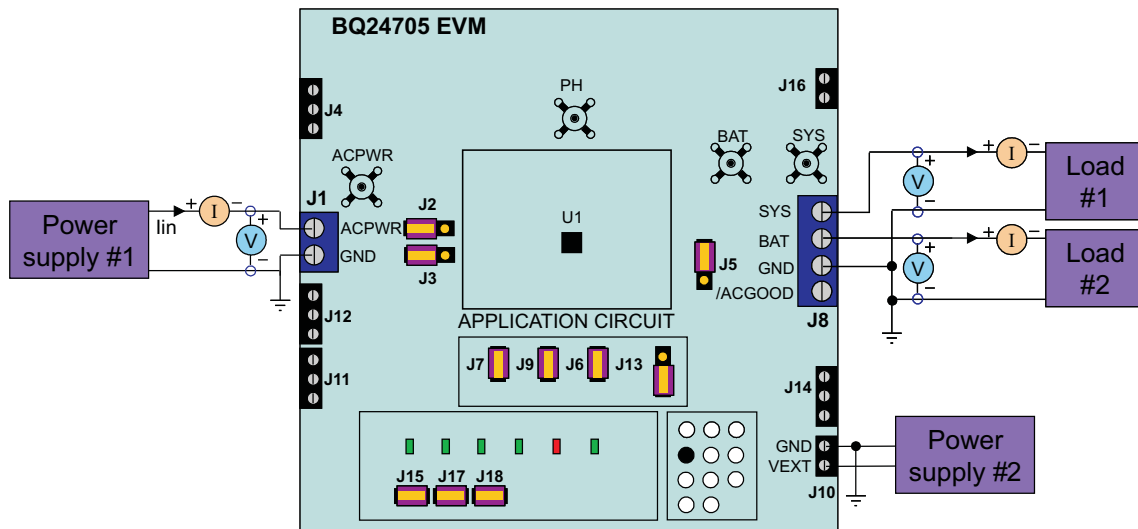

Figure 2. Test Setup for HPA297 (bq24705EVM)
3. Connect the output of the Load #1 in series with a current meter (multimeter) to J8 (SYS, GND). Ensure that a voltage meter is connected across J8 (SYS, GND). Turn on the power of the Load #1. Set the load current to 4 A \pm 50 mA but disable the output. The setup is now like Figure 2 for HPA206. Ensure that $I_{bat} = 0 \text{ A} \pm 10 \text{ mA}$ and $I_{sys} = 0 \text{ A} \pm 10 \text{ mA}$.